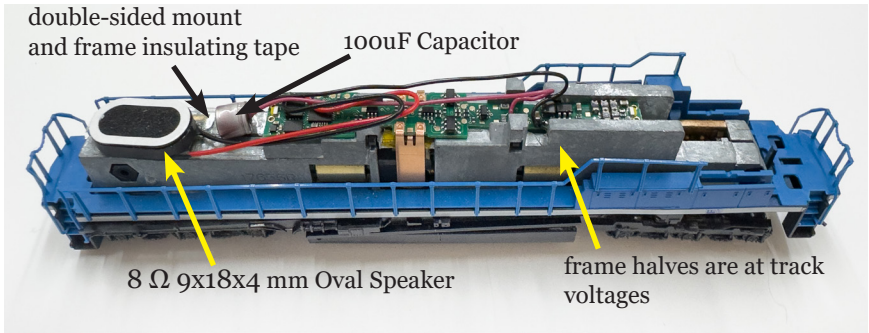

Figure 2: SDXN147K2: Completed installation without locomotive shell
6. Fold and shape any excess wire so that it lays flat. See **Figure 2** to see completed installation. Replace the locomotive shell.